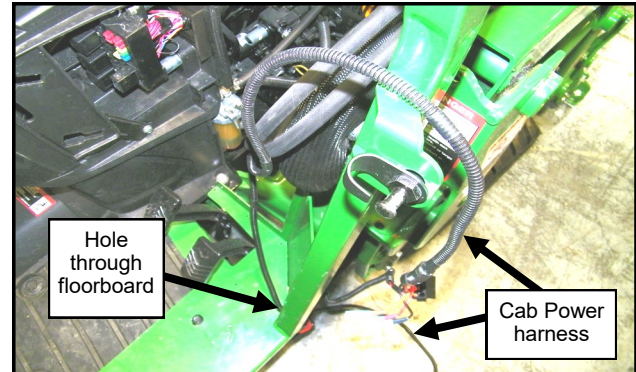

Fig. 7.2 (Feed Wire Through Floorboard)
- 7.2 Locate the power harness (WH-00072). Per Figure 7.2, find the end consisting of only a bullet and ring terminal, and feed that end through the hole in the front corner of the right-side cab floorboard. Align the switch connector to the cowl bracket in the middle of the A-Pillar to ensure enough of the harness remains in the cab (ref. fig. 20.3 on page 15).